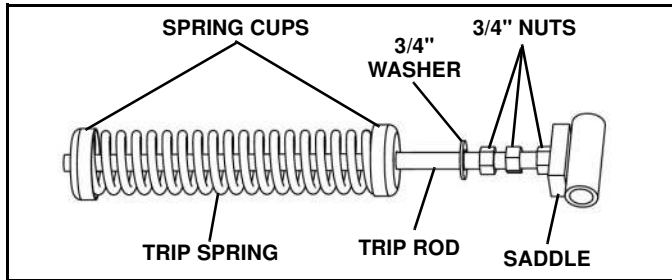

Figure 1-8
1. Install three 3/4" nuts onto the long threaded end of the spring trip rod (See Figure 1-8)